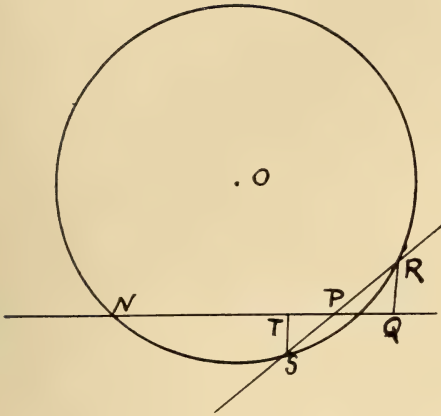
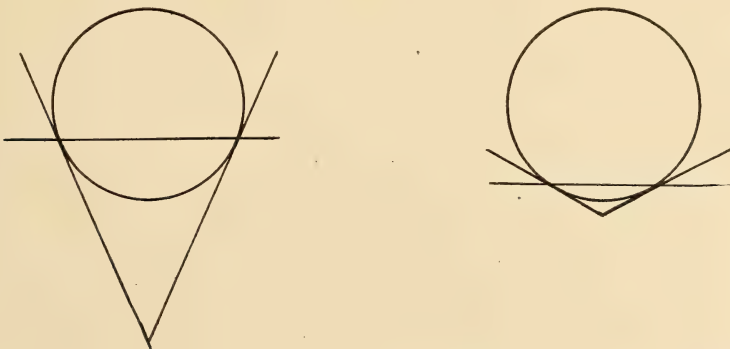

FIG. 2.—BALL CONTACTS
FIG. 3.—SHARP AND BLUNT GROOVES
to the inner raceway there shown, the ball is momentarily rotating on NP as an axis. If the materials were absolutely structureless and incompressible, the contacts would be really points and no sliding abrasions would take place. But steel and all other materials must be regarded as undergoing local deformation. We have in consequence surfaces of contact instead of points. Assuming that the contacting portions are similar in section to what we have in an exaggerated form in Fig. 2, we shall readily see that rotation on NP will really mean that S and R , on the ball, are rotating with TS and QR as radii. In consequence, there is a sliding of metal on metal. The radius of rotation is at a maximum at S and R but possesses some value,
even though a less one, for intermediate points (except P). A little consideration will show that this is a very serious source of friction. It is a slide under pressure. We may, I think, safely assume that, despite the reduction of the intensity of pressure at individual points, the increase of the area of contact means increase in the aggregate of sliding friction. Usually, however, increase in area is a consequence of the increase in pressure. The effort of the designer should consequently be directed towards reducing this area to a minimum. Imagine one ball in a sharp groove and another in a blunt one. See Fig. 3. It is evident to any one that the friction developed by rolling under load is very different in the two cases. There is a clear reason for this. Assuming the vertical loads to be the same, the pressures between ball and raceway are much greater in the case of the sharp groove. Because of the greater pressures, the areas of contact will be larger, so that, when rotation on the instantaneous axis occurs, an increased total of sliding friction will be developed. Now the things the designer should seek are, (1) low pressure, and (2) small angle between instantaneous axis and profile of contacting surface. Evidently, the higher the pressure, the greater the area involved in slide. As to the second point—we shall readily see by returning to Fig. 2, that with the same pressure and con-
sequently the same length SR an increase in the angle RPQ will lengthen all the radii of rotation like QR and TS . In Fig. 3, the friction of slide with the sharp groove is still further increased by the augmentation of the angle between instantaneous axis and raceway profile. The question of the size of this angle is a vital one in ball bearings. It is clearly the larger factor accounting for the excessive difference between the cases of Fig. 3. In the second view, a doubling of the pressures along the common normals at the contact points would of course increase the areas of contact and thus augment the sliding friction. But all radii of rotation would be small and the increase in friction would be only moderate. We see, then, that the increase in normal pressures in the first view due to the steepness of the groove faces being only moderate itself could give rise to only a moderate increase in friction. But one needs but very little experience to know that the actual difference between the two cases is excessive. So that we conclude that the influence of the angle between